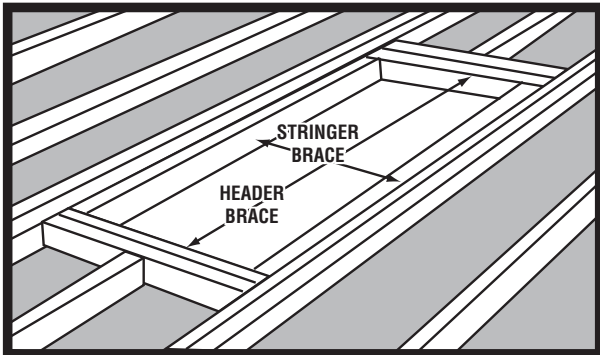

FIGURE 2
- C. If it is necessary to cut ceiling joists, **BE SURE** to tie the cut members to other joists with a header or stringer brace of the same dimensions (see FIGURES 2 and 3).